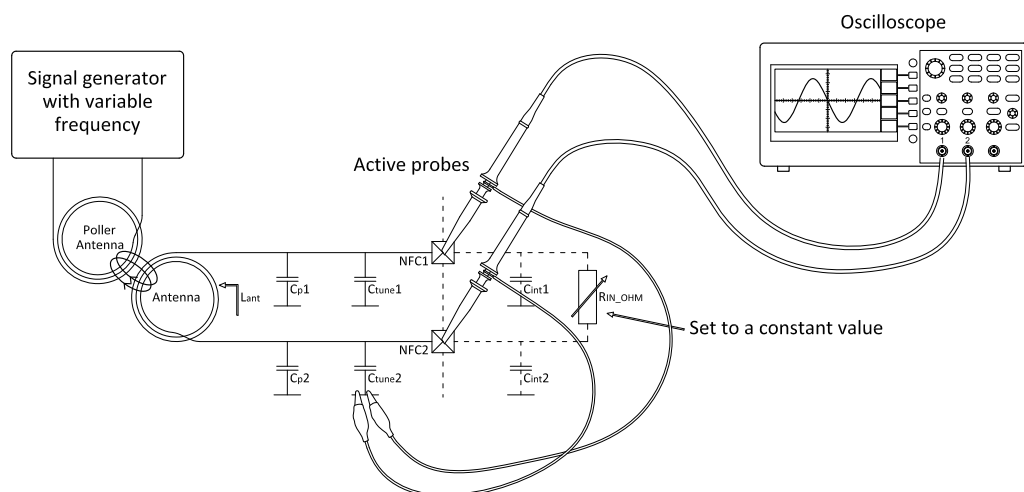

Figure 6: Setup for the method of varying the frequency
- NFC antenna with resonant frequency of 13.56 MHz (the poller antenna in Figure 6: Setup for the method of varying the frequency on page 10).